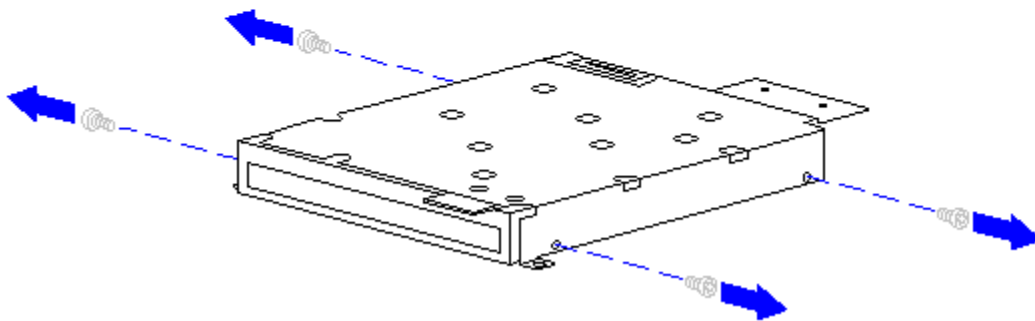

Figure 5-40. Removing the Diskette Drive Bracket Screws
2. Remove the diskette drive from the bracket by removing the four screws from both sides of the bracket (Figure 5-40).